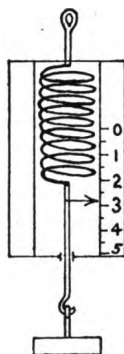

FIG. 244
**268. Force.** Thus far we have used the terms force and pressure in the sense of agents through which various forms of energy have brought about the changes described. In many cases only the qualitative side of this force has been considered. The quantitative side of it will be discussed more in the pages that follow. As it happens, forces are measured in the same unit as are weights. In fact, weights *are* forces. When we weigh things we place them upon something, which is thereby pulled or pressed down. The common means of weighing is the spring scales (Fig. 244). In it the coil of wire, or spring, is stretched by the weight of the object pulling down upon it. The spring possesses a characteristic known as *elasticity*, because